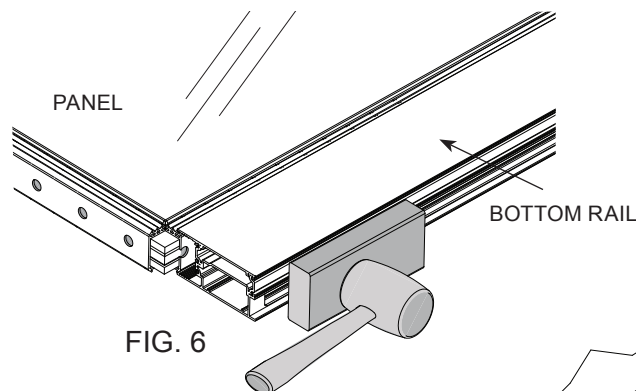

FIG. 6
4. Using a wood block and Cat. No. ST57532 CRL Soft-Face Power Hitter Mallet, work the top rail onto the glass and gaskets until it is fully seated. (FIG. 6)